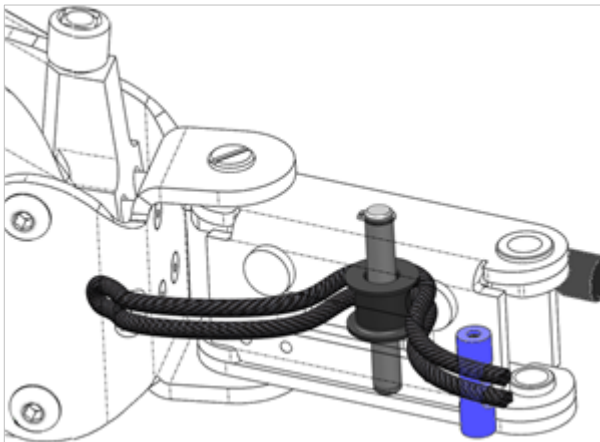

Figure 9 Shoulder bungee as delivered
- e. Slide the cinch down to the anchor and adjust its position on the cords until it holds the cords at the desired tension. See Figure 9, which also shows an alternative way to reeve the cord around the pulley in the hinge block.